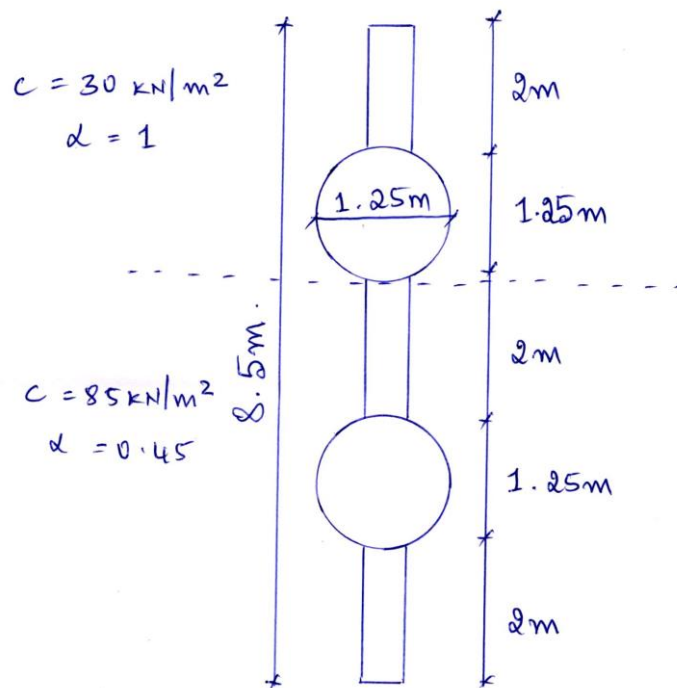

Fig.Q.6(b)
- b. For the under reamed pile shown in Fig.Q.6(b), determine the safe load carrying capacity for tension load (F.O.S = 3). Pile diameter is 0.5m and bulb diameter is 1.25m. (12 Marks)